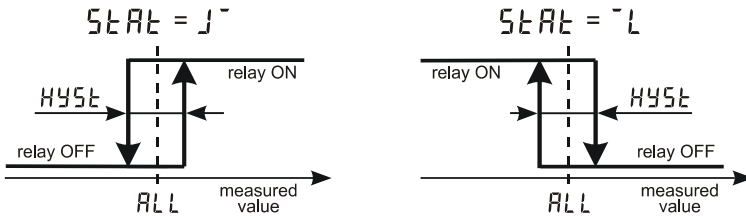
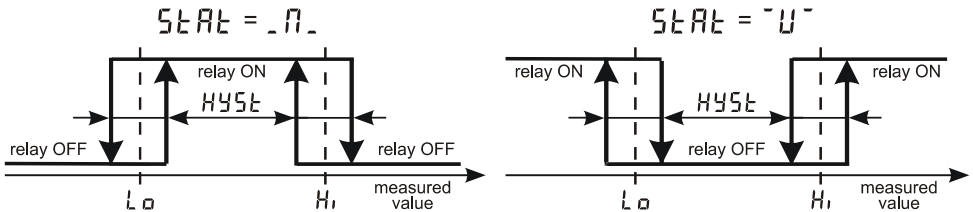

Fig. 10
Fig. 11
- Relay static characteristic: $SEt \Rightarrow out \Rightarrow out 1 \Rightarrow StAr$. When output state is determined by 1 limit, this parameter may accept either of the values 1 and 2 , and when the state is determined by 2 limits – 1 and 2 . The symbols representing the value of the parameter depict relay activation function (see Fig. 10 and Fig. 11). To confirm value change, press $\rightarrow$.
Relay activation function in case of 1 limit (Fig. 10) is further specified by the parameters
$SEt \Rightarrow out \Rightarrow out\ 1 \Rightarrow ALL$ and $SEt \Rightarrow out \Rightarrow out\ 1 \Rightarrow HYSt$, and in case of 2 limits (Fig. 11) – by the parameters $SEt \Rightarrow out \Rightarrow out\ 1 \Rightarrow Lo$, $SEt \Rightarrow out \Rightarrow out\ 1 \Rightarrow Hi$, and $SEt \Rightarrow out \Rightarrow out\ 1 \Rightarrow HYSt$.
A major application of TC600, along with indicating measured variable, is ON/OFF control. The unit has all the features of a standard ON/OFF controller. It may be used for controlling a single actuator, e.g.: heater, cooler, solenoid operated valve, etc. In such case, only 1 relay is needed, and respectively, the parameters to be programmed are: *TYPE*, *SET*, *ALL*, and *HYST*. The relay, and consequently the actuator, will have only 2 states - activated and inactivated. Depending on the *TYPE* value, the relay will be switched ON or OFF when the measured variable exceeds the limit *ALL* a little or falls down below it a little. This exceeding / falling below by a certain margin delays the switching action a bit, but avoids undesirable frequent relay switching when the measured variable slowly crosses the limit. The 2 switching points around the limit form the hysteresis zone *HYST* (see Fig. 10). Please note that the measured (controlled) variable continually cycles around the limit. Therefore, ON/OFF control is not considered precise, but it is very simple to use and implement.